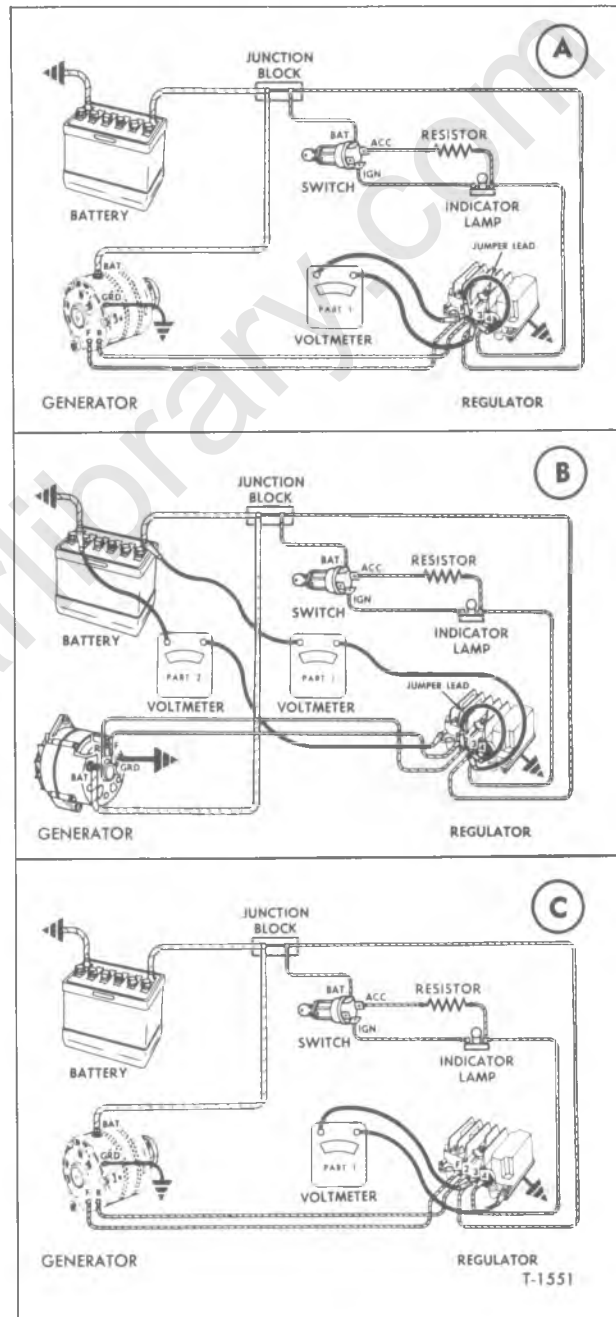

Figure 17—Connections for Testing 1116378 Regulator Voltage Setting (Typical)
1. Make connections as shown in View A, figure 17.
a. Make connections as shown in View B, Part 1, figure 17, and record the voltage drop.
b. Connect a voltmeter between battery ground terminal and ground on regulator base as shown in View B, Part 2, figure 17, and record the voltage drop.
d. If total voltage in Step c. is below 0.25 volt, connect a voltmeter between regulator No. 3 terminal and ground on regulator base as shown in View C, figure 17; then with switch on, operate engine at 1275 rpm for 15 minutes. Leave cover on regulator. Place a thermometer $\frac{1}{4}$ -inch from